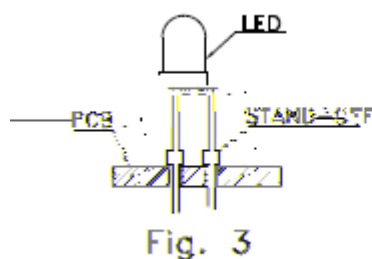

Fig. 3
3. Use stand-offs (Fig.3) or spacers (Fig.4) to securely position the LED above the PCB.